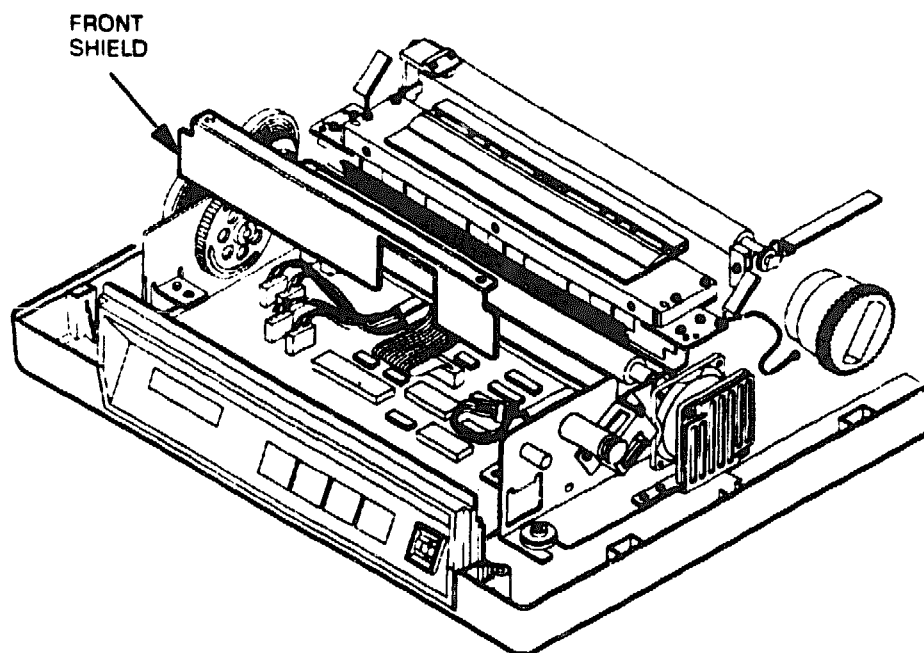

Figure 6-16 Front Shield Removal
4. Lift the front shield out of the printer (see Figure 6-16).